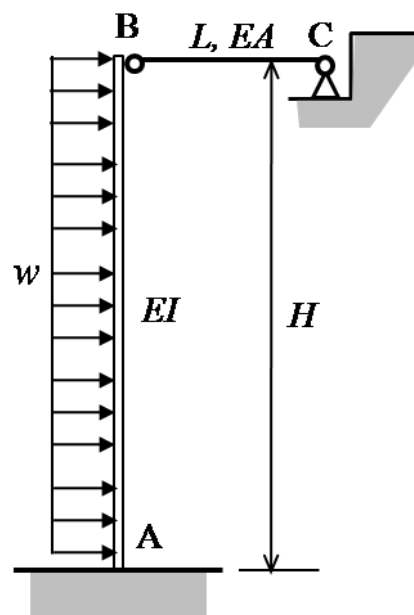

**Figure 4/Rajah 4**
4. **Figure 4** shows a rigid-jointed frame to carry the working loads. If the collapse load factor is to be 1.8, determine the required plastic moment capacity ( $M_p$ ) for the frame.